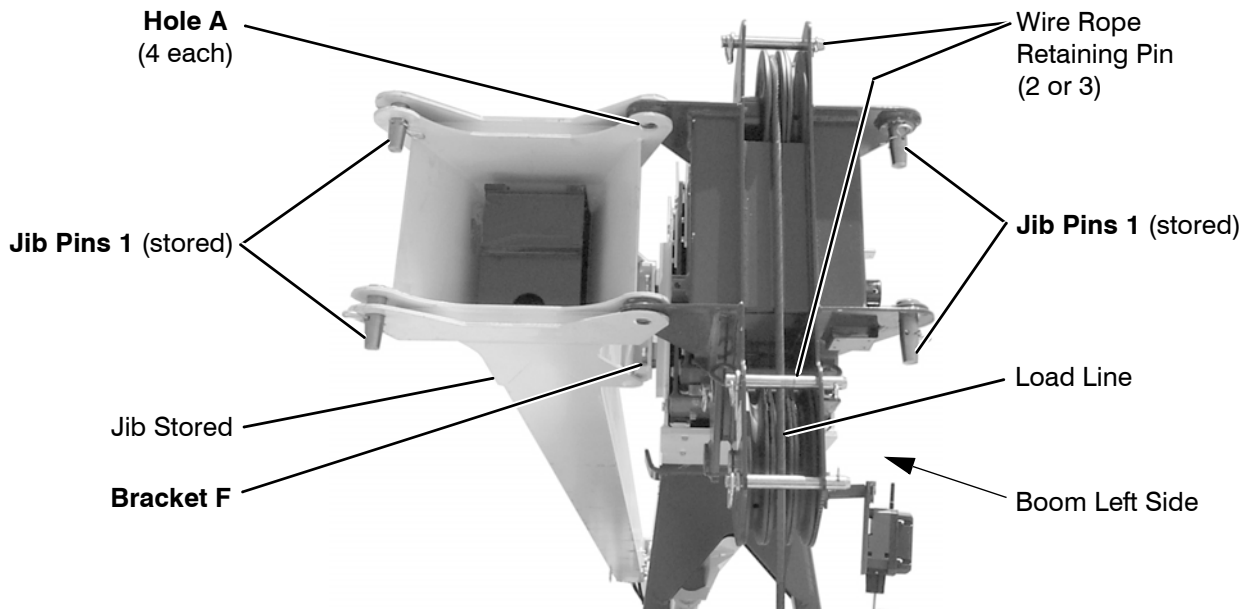

Figure 2-14 Jib Mounting Holes on Typical boom head
- With boom lowered remove the two (2) hair pins on the anti-two block weight. Remove the weight from the wire rope and let it hang on the ATB switch.
- Remove the wire rope retaining pins from the boom head and temporarily lay the wire rope to left side of boom head, out of the way of jib attach lugs. With wire rope off to the side, re-install only the lower wire rope retaining pin (or pins) in boom head at this time. See Figure 2-14.
- Remove the four **Jib Pins (1)** from jib base and boom head, see Figure 2-14.
- Install two **Jib Pins (1)** to fasten the jib to **Holes A** on the right side of the boom head.
- Remove the two **Jib Pins (1)** from **Holes A**, on the left side of the boom head, refer to Figure 2-14.
- Remove remaining two Jib Pins (1) from **Holes A**, on the right side of the boom head, refer to Figure 2-14.
**Note** Store **Jib Pins (1)** as shown in Figure 2-14 and secure in place with hairpin cotters.
**Important** Do not extend boom until Jib Pins (1) are removed when Pin 2 is installed; otherwise, brackets will be damaged.
Storing and deploying the Jib may become difficult if misalignment exists between the Jib and Boom head. Adjust jib storage brackets to shift the jib vertically and horizontally as required to set the jib at the proper height and align pin holes (**Hole A**), refer to Figure 2-14.